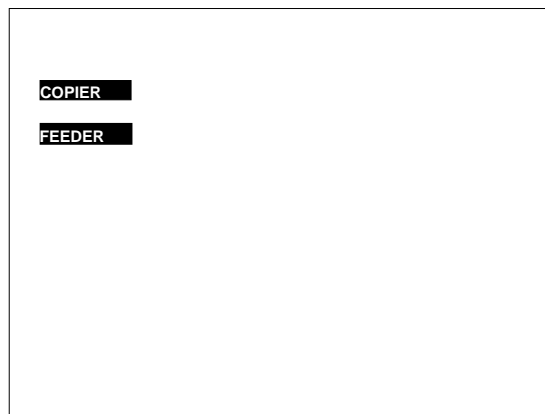

Figure 8-601
- The display changes to the screen shown in Figure 8-601.
A press on the Reset key will bring up the Service Mode Initial screen (Figure 8-601). Another press will end service mode, and the User screen will return.